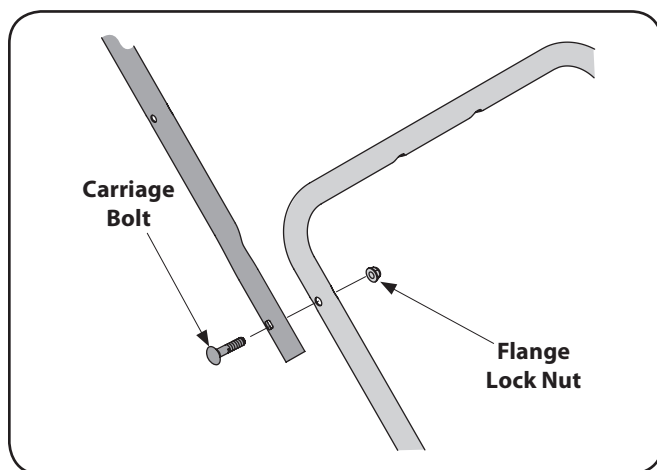

Figure 3-10
2. Secure the upper handle to the lower handle using the 1.50" carriage bolts and flange lock nuts (1/2-in. socket wrench). See Figure 3-10.